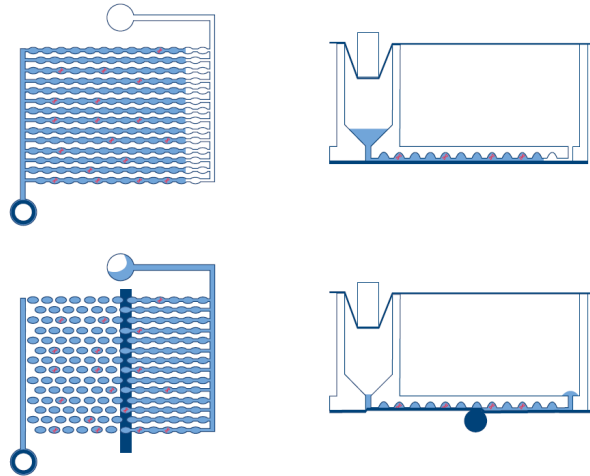

Figure 1. Scheme of filling and partitioning of a well.
- **Partitioning:** In the first instrument module, the microchannels and partitions of the plate are filled with the sample material and dPCR reaction mix. This is accomplished by plunger pins compressing the elastic Top seal of the nanoplate over each well. This creates a positive pressure that pushes the input well liquid into the microchannels and partitions. Subsequently, the connecting channels between the partitions are sealed by activation of a pressure sensitive adhesive through a pressure-controlled rolling process (see Figure 1).
- **Imaging:** The final process step is image acquisition, which captures the signal from each partition of the nanoplate wells. Within Utility mode, the user can configure the detection channels and imaging settings using the experiment setup functionality within the Software Suite. Within the IVD mode, the imaging settings are preset to optimized conditions, requiring no configuration by the user. The partitions which contain a target molecule will emit fluorescence with higher intensity than partitions without target (see Figure 1). For more details and specifications on the imaging system, see Section 8 Technical Specifications.